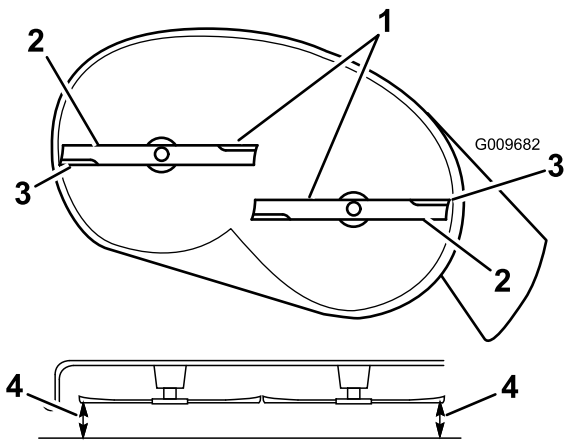
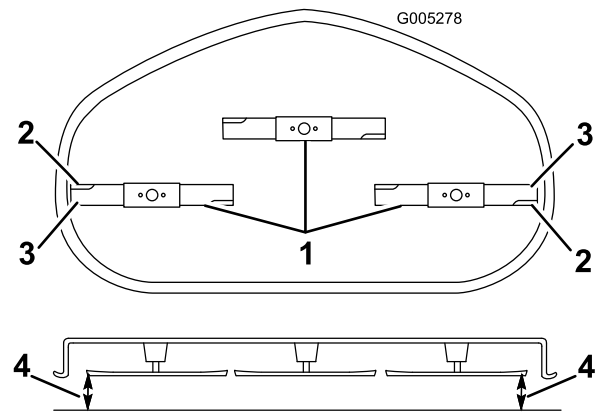

Figure 52
Figure 53
4. Carefully rotate the blade(s) so that they are all side to side (Figure 52 and Figure 53).
5. Measure between the outside cutting edges and the flat surface (Figure 52).